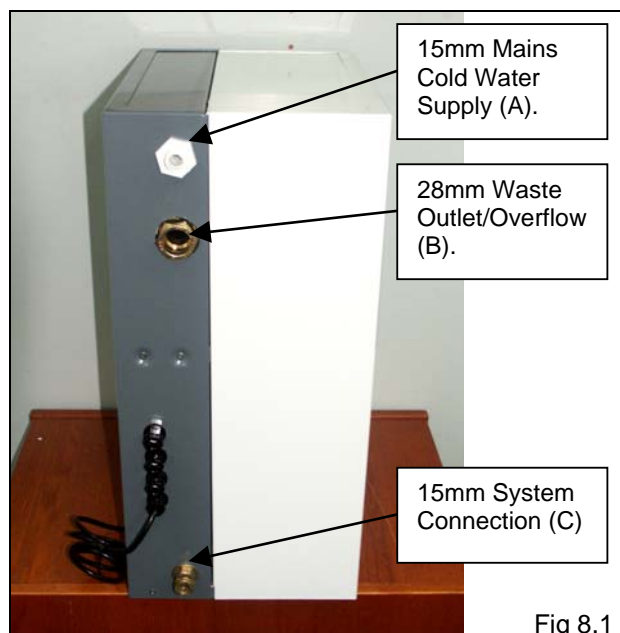

Fig 8.1
If the appliance is allowed to operated without sufficient water, air will be drawn into the pump assembly, which could result in an Air Lock, and ultimately damage to the pump assembly, which would not be covered by the manufacturing warranty. See Fig 8.1
The Waste Water Outlet/Overflow (B) shall be routed to a safe discharge location that will not cause harm to persons, nor property, but shall be clearly visible, so that any water discharge will be identified and remedial action taken, ensuring that any wasted water is kept to a minimum. See Fig 8.1